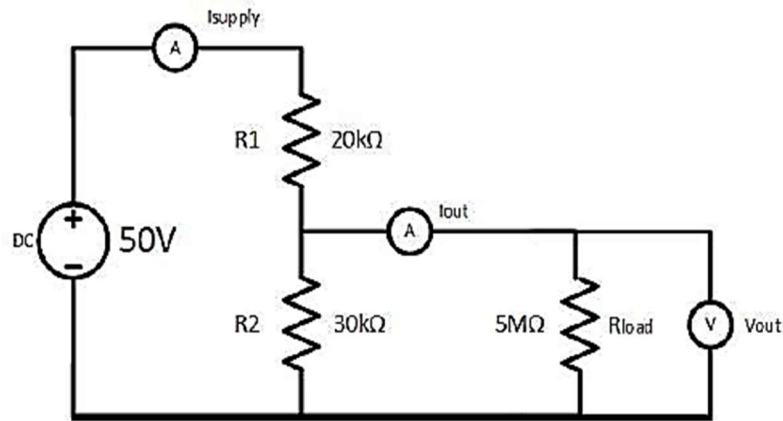

Figure 6
This section aims to help you learn to use PLECs to simulate your own simple circuits. You now need to build a model to simulate the circuit shown in Fig. 6. This circuit is formed of a potential divider (R1 and R2) supplying voltage V_{out} to the load resistor R_{load} . We will see that it is not always possible to use the potential divider rule.
- b. Build the simulation model of Fig. 6. To add an element to the model, we basically "click", "drag" and "edit". For example,
- iv. To measure a current, you need to add an ammeter. Go to the "electrical" tab again, and then meters and left click on ammeter. Drag the ammeter until it rests on the connecting line in which you want to measure the current. When you let go of the mouse button the ammeter will connect itself into the circuit. Alternatively, you can drag the ammeter to the simulation plane and connect to its terminals using procedure (3) above.
- v. To view the output of the ammeter you will need to connect it to a "scope" or a "display". Drag a scope or display from the "system" tab into your simulation window and connect it to the triangular output of the ammeter using the process of (3).
- vi. If you want to measure the voltage, you need a voltmeter. Drag a voltmeter (from the "electrical-meters" tab) into your simulation plane. Connect its terminals to the points in the circuit where you want to measure the voltage using the process of (3). Connect the voltmeter output to another scope or display. If you want to see current and voltage on the same scope, you will need to edit the scope by double clicking on it and then click on its "file" tab. Using "scope parameters" you can increase the number of plots that a scope can show by incrementing the value given. You will then have more than one port on the scope to connect to meters.